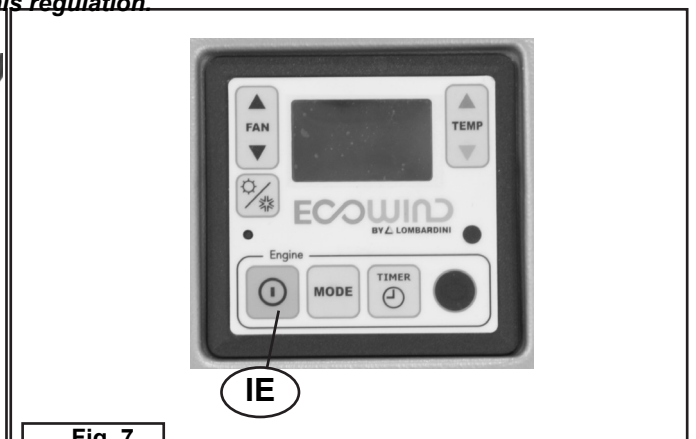

Fig. 7
- Split Strat/Stop button for **IE** (Fig. 7) and stop emergency;
The diagram in figure 7 shows the flow chart of the conditioning process: